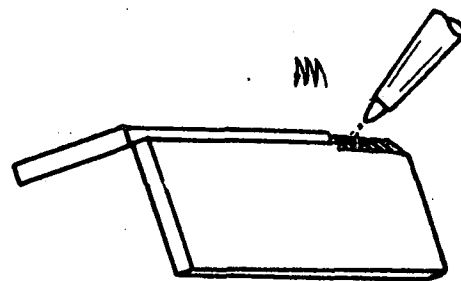

Fig. 4
d) Advance the tip while oscillating (fig. 4).